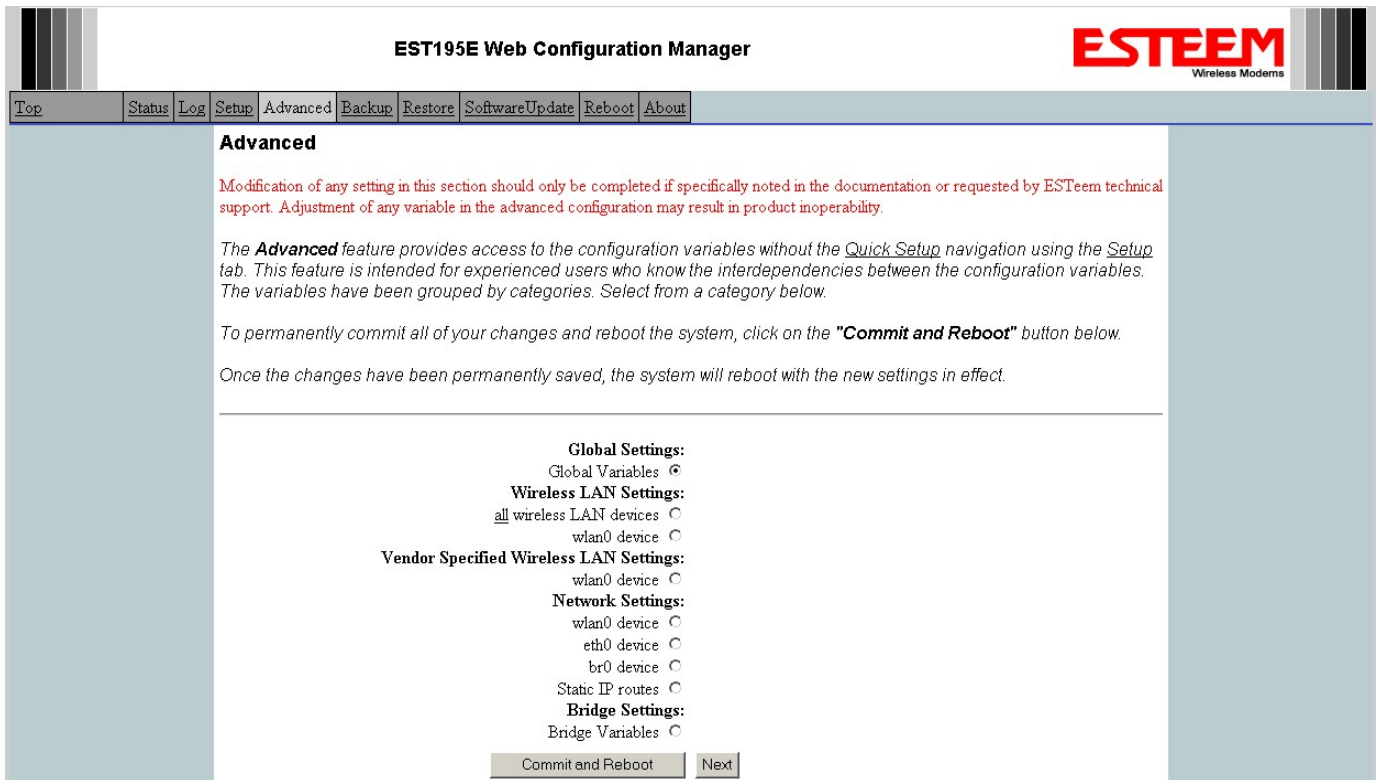

Figure 11: Advanced Settings Menu
1. Select **Advanced** from the menu items and **Global Variables** (Figure 11).
2. Press the Next button and Figure 11 will be displayed. At the bottom of the page are the NTP server configurations.